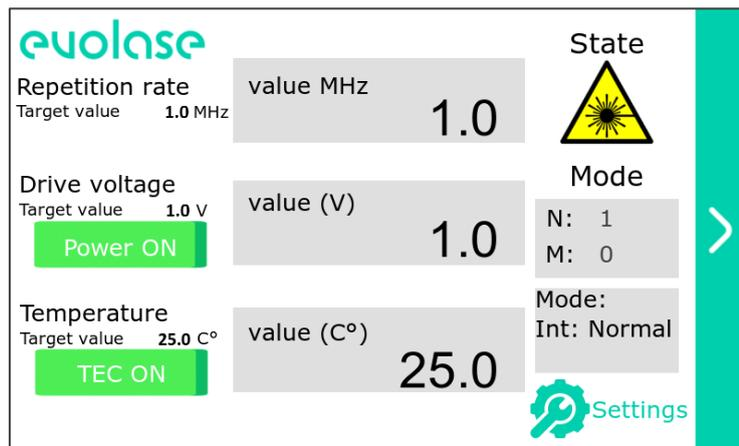

Figure 22 – Emission on state
11. Tap on “Power ON” button to turn on the laser diode emission. The button will light up green, a laser light icon will appear in the state column on the right side of the screen (fig. 22).